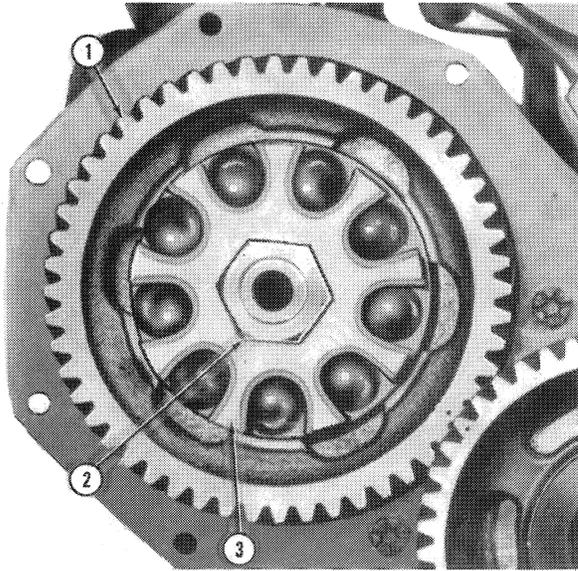

Figure 33
4. Remove the distributor drive gear retaining nut (left hand thread) and remove the driver assembly, Figure 33.